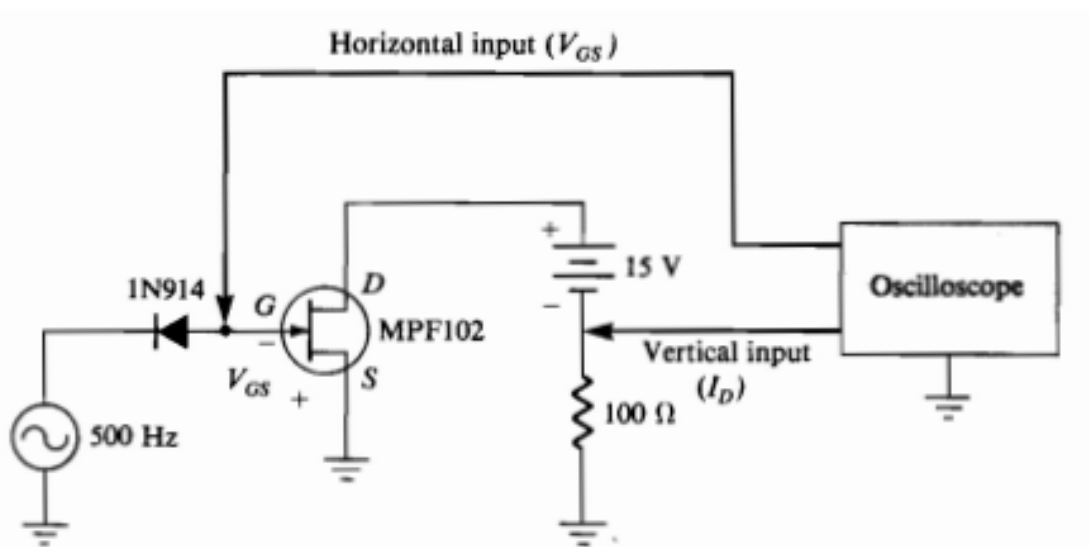

Figure 12-1: Schematic diagram of circuit
1. Wire the circuit shown in the schematic diagram of Figure 12-1. In this part, the oscilloscope is set up to function as an X-Y plotter. Set the oscilloscope's controls to the following approximate settings:
3. The diode in the test circuit of Figure 12-1 is used to: